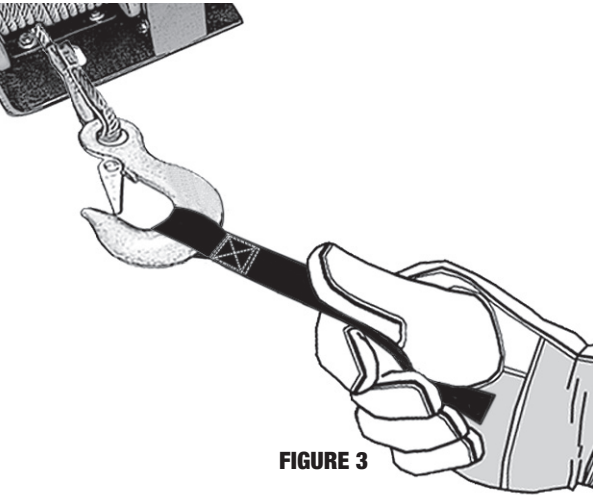

FIGURE 3
- 7. USE HEAVY LEATHER GLOVES** when handling wire rope. **DO NOT LET WIRE ROPE SLIDE THROUGH YOUR GLOVED OR UNGLOVED HANDS. ALWAYS USE THE HAND-SAVER STRAP** when guiding the wire rope in or out. (**FIGURE 3**)
- Step 7** You are now ready to winch. Practice winching operations by freespooling cable out and winching in under no load. Plan some tests in advance and learn to watch and listen. Recognize the sound of a light steady pull, a heavy pull and sounds caused by load jerking or shifting. You will gain confidence. **ALWAYS WEAR SAFETY GLASSES, LEATHER GLOVES AND USE THE HAND SAVER STRAP (FIGURE 3).**
1. **KEEP A TIGHTLY WOUND WIRE ROPE DRUM.** Keep the wire rope tightly and evenly wound on the drum all the time. Do not allow the wire rope to become loosely wound. A loosely wound drum allows a wire rope under load to work its way down into the layers of wire rope on the drum. When this happens, the wire rope may become wedged within the body of the windings damaging the wire rope. A good practice is to rewind the wire rope under tension after each use. Apply tension using hand saver strap (**FIGURE 3**) and ALWAYS wear gloves.